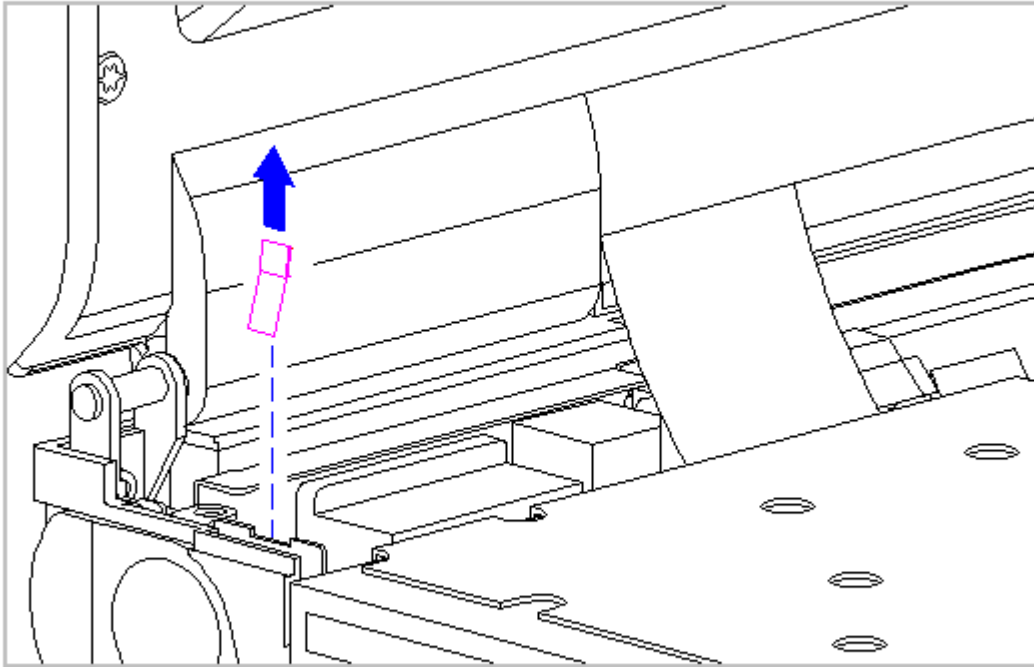

Figure 3-52. Removing the Left Clutch Ground Clip (All Models)
14. Remove the left clutch ground clip from the system chassis (Figure 3-52).